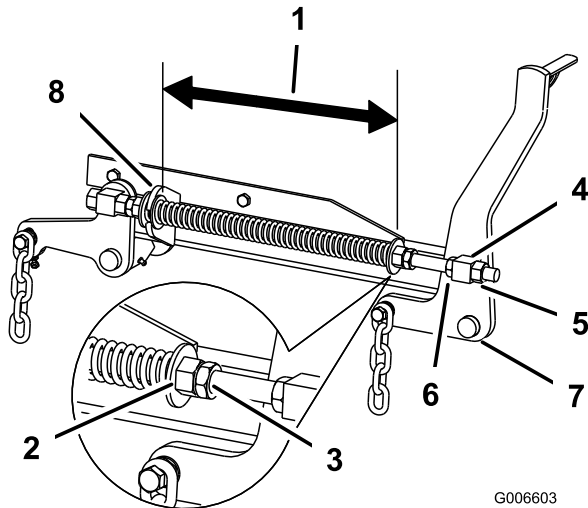

Figure 75
2. Check the distance between the two large washers, it needs to be 11-1/2 inches (29.2 cm) (Figure 75).
3. Adjust this distance, by loosening the spring jam nut and turning the nut in front of each spring (Figure 75). Turning the nut clockwise will shorten the spring; counter-clockwise will lengthen the spring.
4. Lock the nut into position by tightening the spring jam nut (Figure 75).